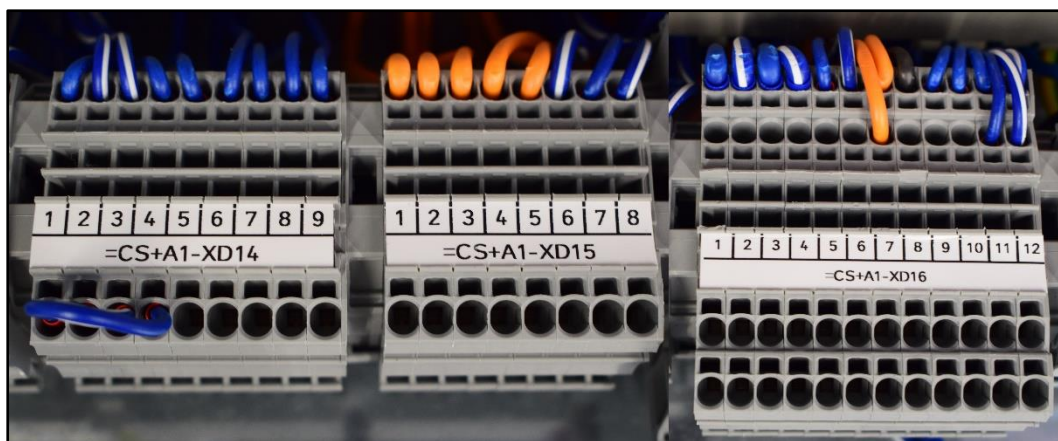

Fig. 22 Terminal strips XD14 + XD15 + XD16
Switching between the two operating modes is possible via the Modbus interface or the dry contact (DI) at XD14.5 (see Fig. 22) of the battery storage (see also section 7.2).